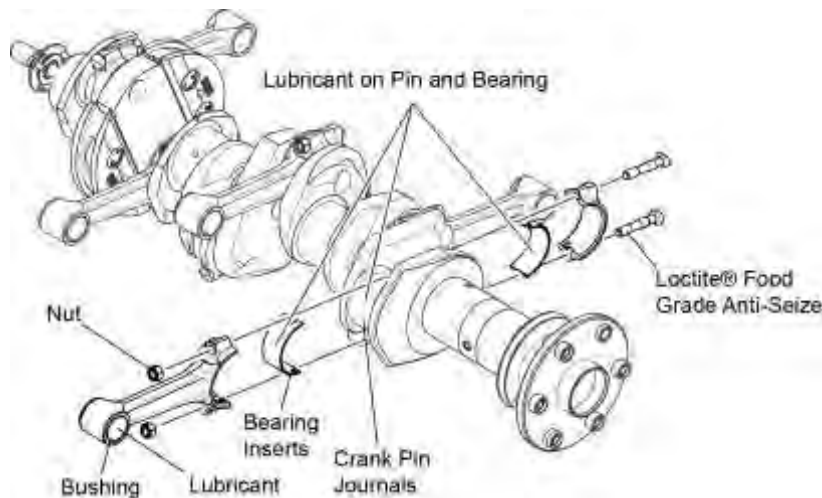
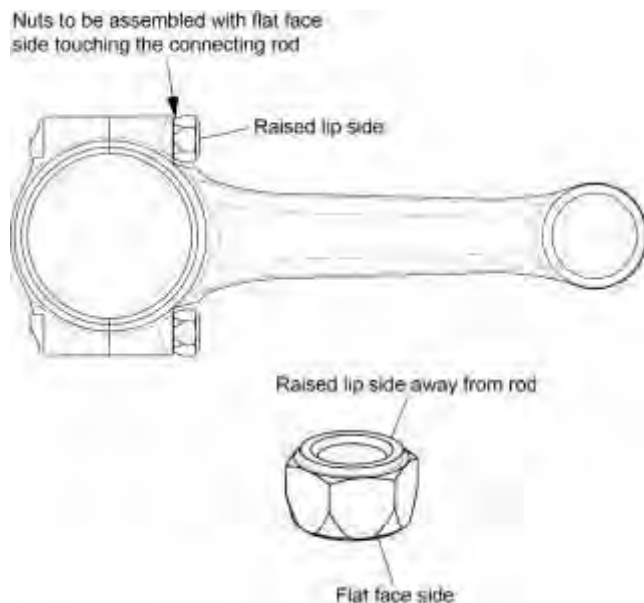
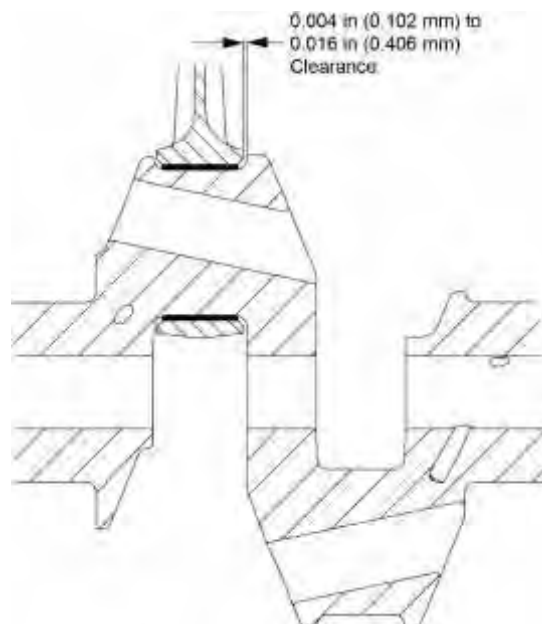

Figure 61
Figure 62
Figure 63
- (1) Ensure that all of the connecting rods have the same weight class letter.
- (2) Apply specified lubricant to the connecting rod and bearing inserts per the latest revision of Service Instruction No. SI-1059 where shown in Figure 61. Different lubricants are used on the various areas on the connecting rod and bearing surfaces.
- (6) Apply Loctite® Food-Grade Anti-Seize Lubricant or equivalent to the bottom two or three threads of the new connecting rod bolts (Figure 61). Wipe away excess lubricant with a clean, lint-free cloth.
- (7) Apply engine oil mixture to the crank pin journals.
- (8) Install each connecting rod end cap (with the bearings installed) on their respective crank pins on the crankshaft (where the numbers on the connecting rods and bearing locks point down - toward the oil sump.)
- (9) Install a new nut on each new connecting rod bolt where the flat face of the nut touches the connecting rod as shown in Figure 62.
- (10) Torque the connecting rod bolts per the torque values in the latest revision of Service Instruction No. SI-1458. (Stretch bolts require an initial torque and are then torqued to the correct stretched length.)
- (11) Measure the side clearance between the connecting rod and crankshaft with a feeler gage where shown in Figure 63. The clearance is to be 0.004 to 0.016 in (0.102 to 0.406 mm).